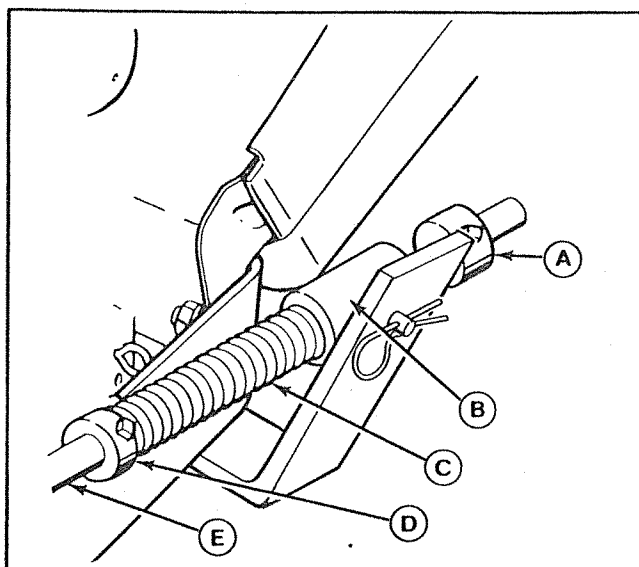

Figure 15. Lift Rod Adjustment
2. Lower the snowthrower. Loosen the setscrew in the front set collar (A, figure 15). To increase clearance, move the set collar toward the rod guide (B). To decrease clearance, move the set collar away from rod guide (toward front). Tighten the setscrew. Raise the snowthrower and recheck the measurement. Readjust if necessary.
3. The scraper blade will float over the surface bumps of dig into them depending on the down pressure. The initial adjustment made during snowthrower installation may be suitable. If not, fully raise the snowthrower. Loosen the setscrew in the rear set collar (D). To allow scraper blade to float more, move the rear set collar toward the rear. To increase down pressure move the rear set collar toward the spring (C). Tighten the setscrew. Lower the lift lever.